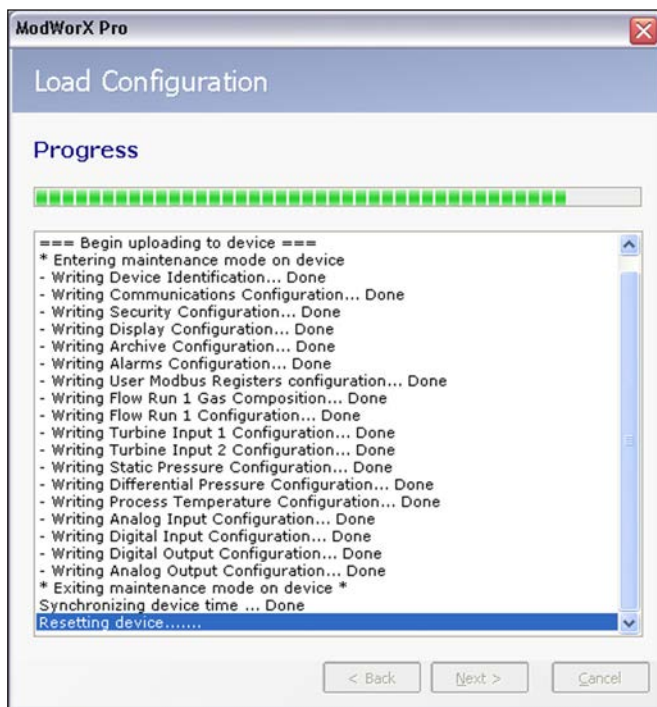

Figure A.6
- Click *Next* to initiate the upload . A progress screen will be displayed throughout the upload (Figure A.6), followed by a confirmation screen when the upload has been successfully completed.